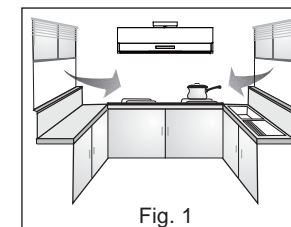

Fig. 1
1. Surrounding Environment (Fig.1)